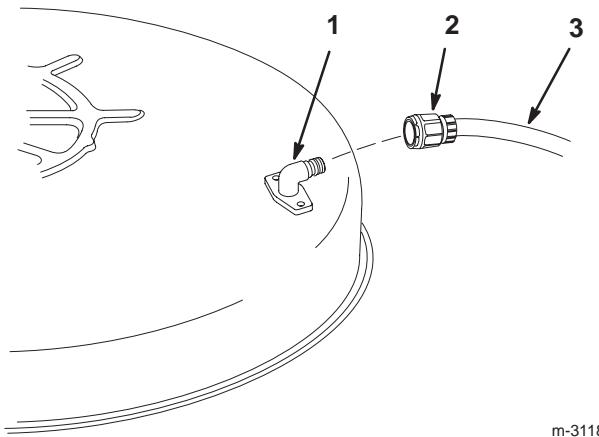

Figure 33
5. Attach the hose coupling to the end of the mower washout fitting and turn the water on high (Fig. 33).